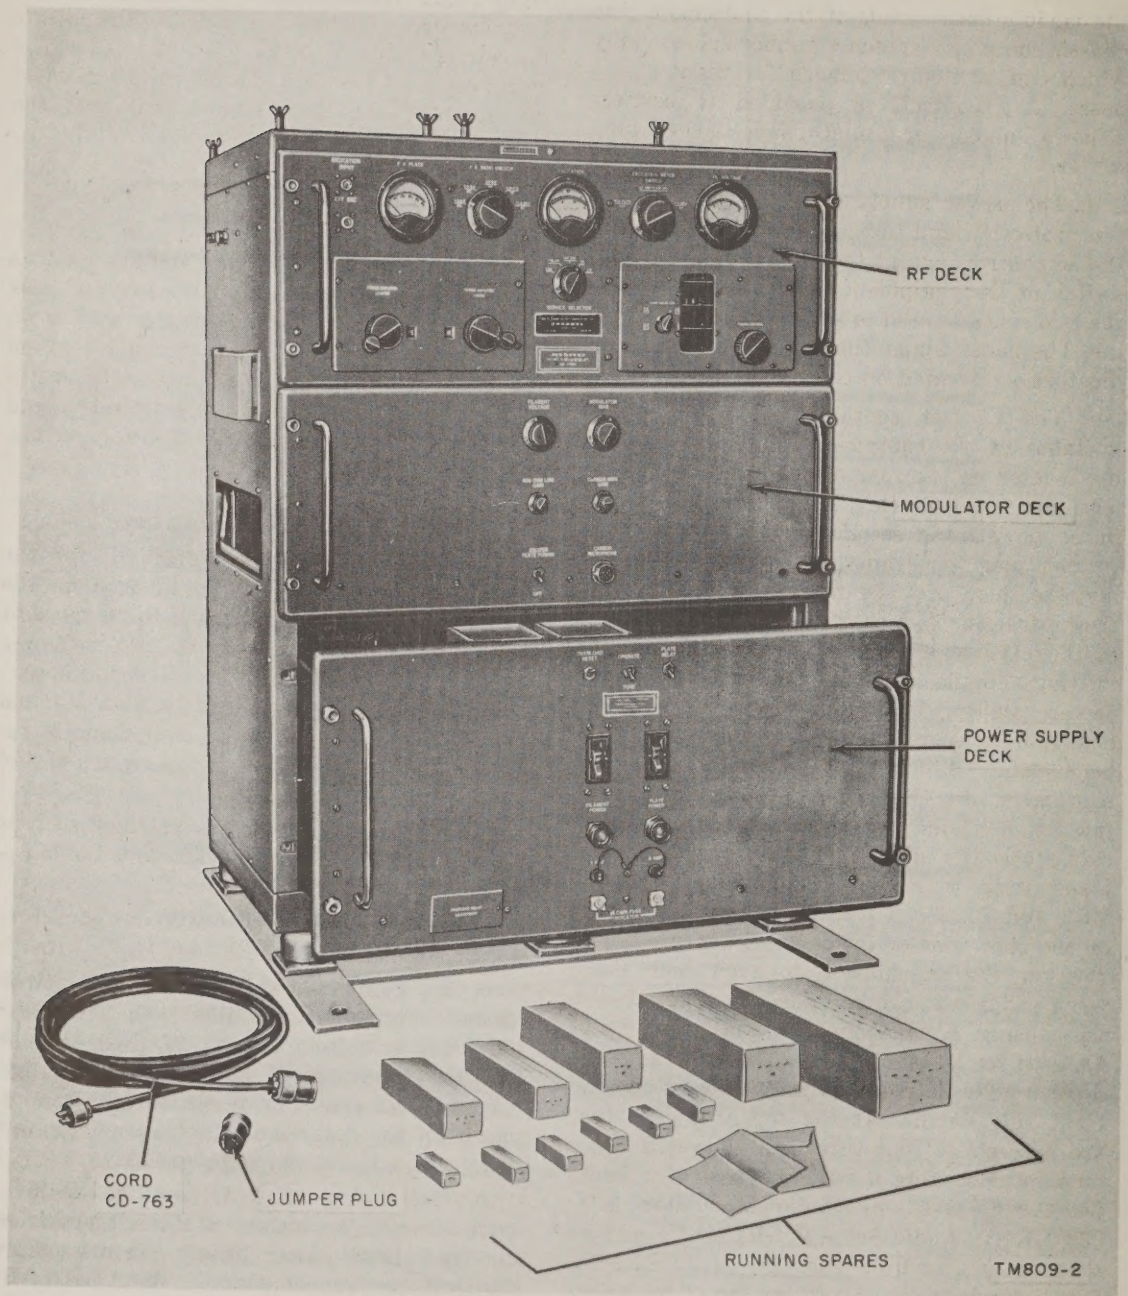

Figure 3. Radio Transmitter T-363/URT, components.
a. Components. The transmitter components (fig. 3) are listed in the following chart:
7. Description of Transmitter (figs. 3, 4, and 5)
b. The rf deck (fig. 3) contains all the rf controls and the meters of the equipment on its front panel. Each tuning control contains its own mechanical counter. Two coaxial receptacles, FSK and EXT EXC (fig. 6), provide a means of bringing in outside signals for increasing the types of service selected by the SELECTOR SERVICE switch. The exciter stages are mounted on subassemblies and can
c. The modulator deck (fig. 3) contains all the modulation controls of the equipment. The chassis contains a speech amplifier subassembly which can be easily removed for testing purposes. A receptacle is provided to connect either a handkey or a microphone to the transmitter.
d. The power supply deck (fig. 3) contains the protection and indicator devices and all of the ac controls except the THERMAL RESET switch of the equipment. A small plate covers the two controls used to adjust the overload relay. The panel lamps, fuses, and blown fuse indicators are located on the front panel.